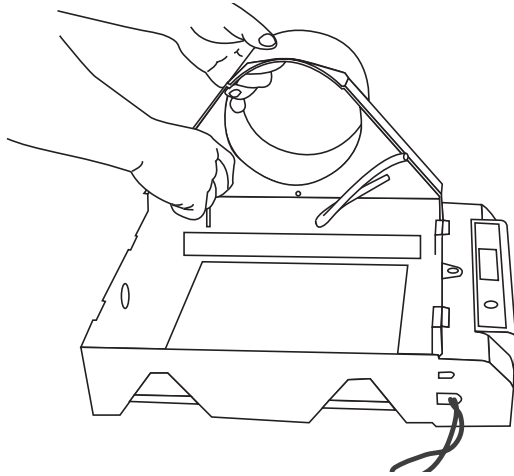

Figure 11
- Remove the 2 - #6 screws which hold the humidifier side in place (a short handled screw driver will give you easier access to the screws) (fig 11.)